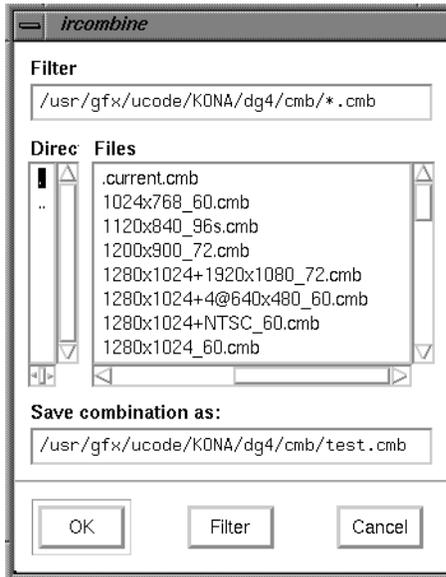

Figure 3-21 Save a Combination Using the ircombine Window
7. From the File pulldown menu on the Combiner main window, select Save As. The ircombine window appears (see Figure 3-21).